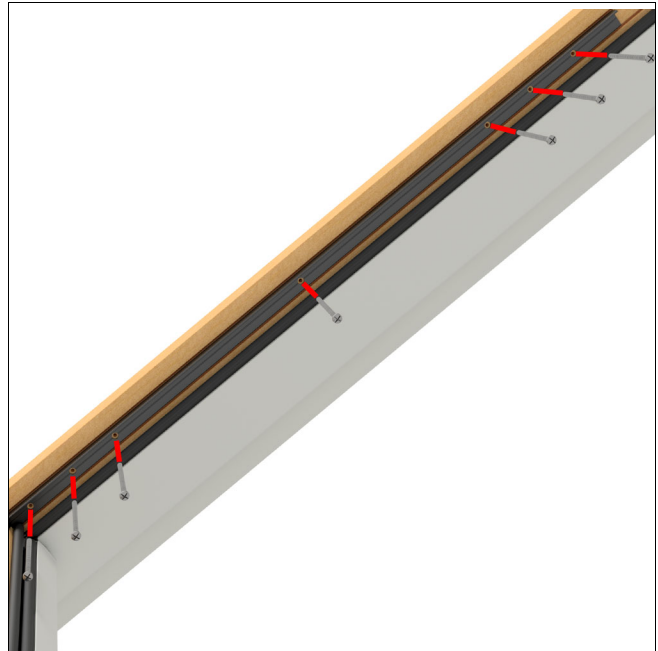

Figure 42
7. Fasten the track to the head jamb with #8 x 3" screws into the rough opening. Shim at every screw location. Do not bow the head jamb. Fasten through all holes in the panel guide. See Figure 42.